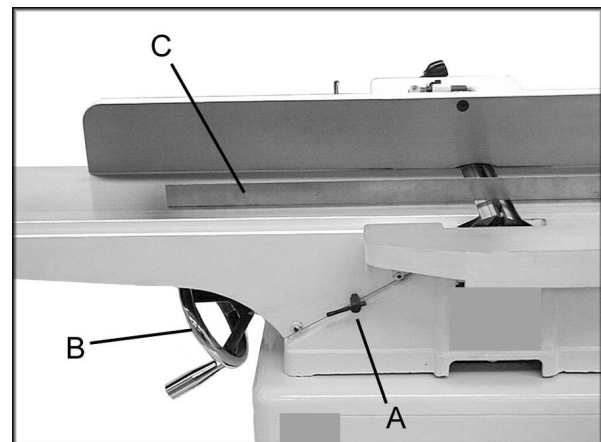

Figure 9
1. Place a straightedge(C Fig. 9) on the out-table so it extends over the cutterhead.
3. Loosen table lock screw (A, Fig. 9) and raise the outfeed table to the height of blade number one by turning handwheel (B, Fig. 9). Counter-clockwise will cause the outfeed table to raise. Clockwise will cause the outfeed table to lower. Set a straight edge (C, Fig. 9) on the outfeed table and across the cutterhead.